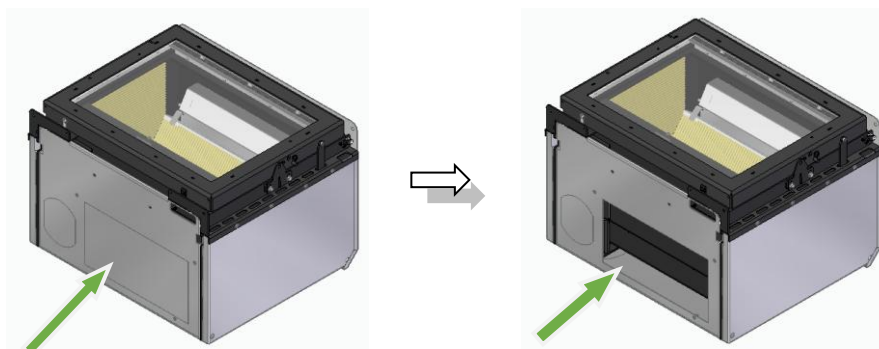

Figure 51 – Removal of the bottom micro-joints
a. On these models of equipment, the ventilation kit is placed underneath the equipment. To attach the optional ventilation kit, you must first break the micro-joints on the bottom with a hammer, in order to attach the fan and the ventilation kit accessories, see Figure 51.